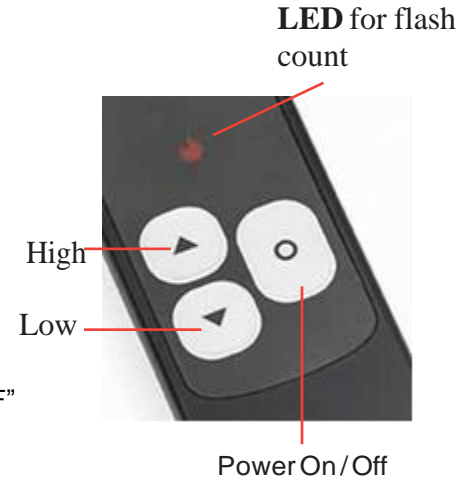

Figure 6.2 – Remote.
4. Pointing remote control towards antenna, press and release the Power ON/OFF button, Figure 6.2.
Begin by deciding where the antenna bracket will be installed, depending on the type of enclosure, Figure 6.2.